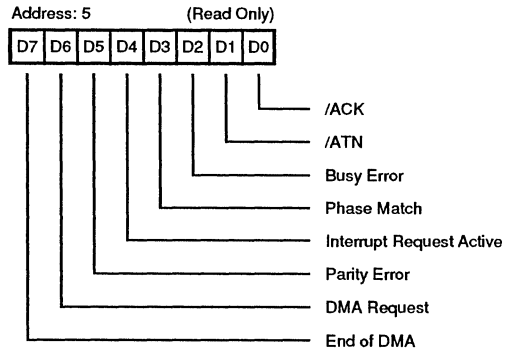

Figure 26. Bus and Status Register
**Bus and Status Register. Address 5 (Read Only).** The Bus and Status Register (Figure 26) is a read-only register which can be used to monitor the remaining SCSI control signals not found in the Current SCSI Bus Status Registers (/ATN and /ACK), as well as six other status bits. The following describes each bit of the Bus Status Register individually.
**Bit 5. PARITY ERROR.** Bit 5 is set if a parity error occurs during a data receive or a device selection. The PARITY ERROR bit can only be set (1) if the ENABLE PARITY CHECK bit (Mode Register, bit 5) is active (1). This bit may be cleared by reading the Reset Parity/Interrupt Register.
**Bit 7. END OF DMA TRANSFER.** The END OF DMA TRANSFER bit is set if /EOP, /DACK, and either /RD or /WR are simultaneously active for at least 100ns. Since the /EOP signal can occur during the last byte sent to the Output Data Register, the /REQ and /ACK signals should be monitored to ensure that the last byte has been transferred. This bit is reset when the DMA MODE bit is reset (0) in the Mode Register.
When an interrupt occurs, the Bus and Status Register and the Current SCSI Bus Status Register (Figures 26 and 24) must be read to determine which condition created the interrupt. IRQ can be reset simply by reading the Reset Parity/Interrupt Register or by an external chip reset /RESET active for 100ns.